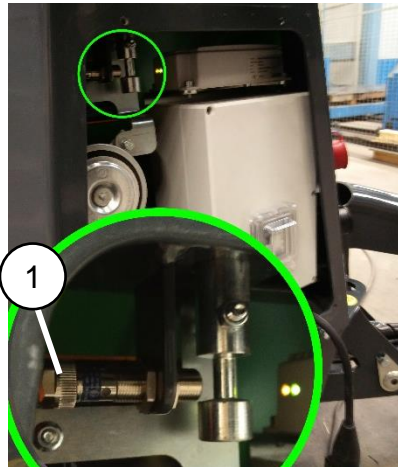

Figure 30: Lower boom transport support
The lower transport support sensor S10 is located in the rear side of the chassis behind a cover (Figure 30 (1)).